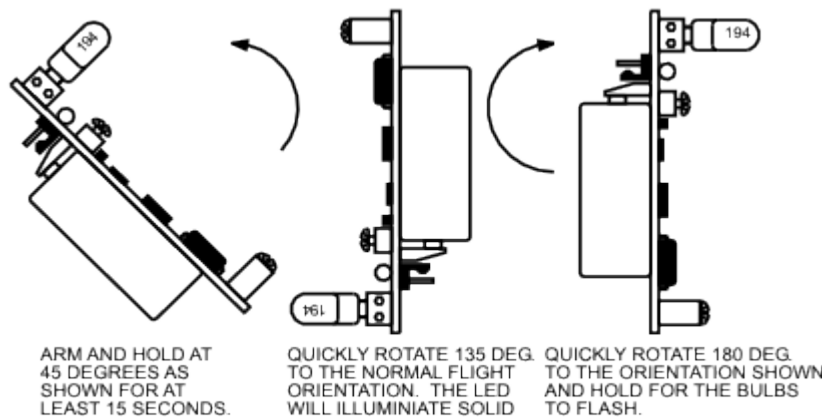

FIGURE 3. Quick Checkout of the
1.3 **QUICK ALTACC FUNCTIONAL CHECK** is shown in Figure 3 and is used for a quick checkout of the *AltAcc*. The test simulates the at-rest, thrust, and coasting flight acceleration. This procedure takes practice to get consistent results and *is simply a functional test* of the operation of the *AltAcc*.